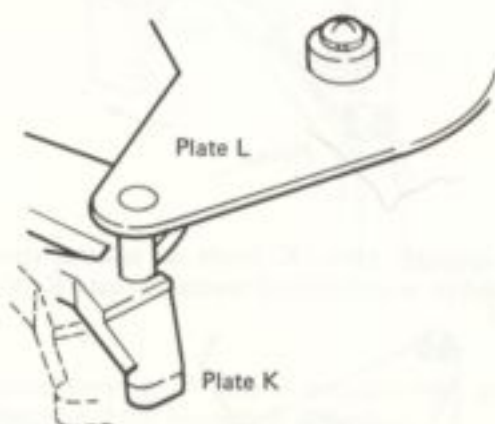

Fig. 26
5. When the tonearm returns to the arm rest, plate K locks with plate L pin and returns to original position (Fig. 26).